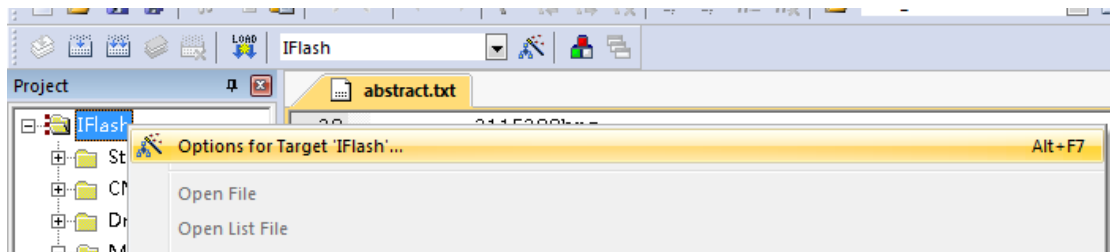
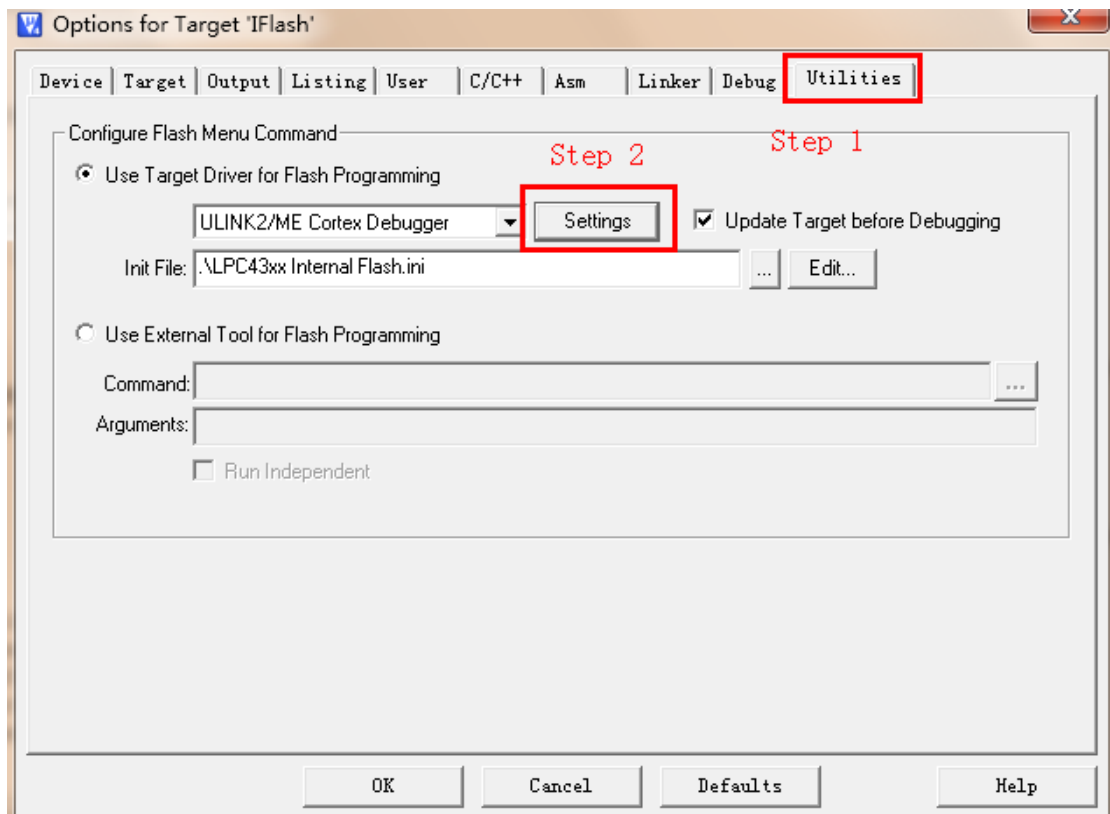

Figure 3-14
Figure 3-20
(1) Erase Internal Flash.
① click IFlash and choose “Options for Target ‘XXX’”(XXX may be the components listed in table 3-3), refer to figure 3-14. Choose “Utilities” and click “Settings”. Setting interface is shown in figure 3-20: